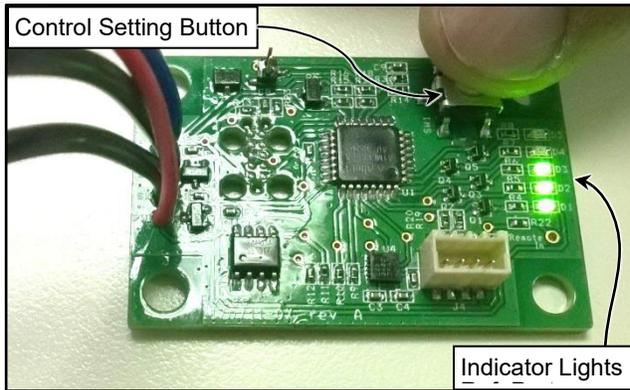

Figure 36
1. The reversing edge switch is a normally open contact. The PVC hose is on the lower air input post. To adjust the switch, first remove the resistor from the contact terminals and attach an ohmmeter across the two terminals. (See Figure 36)
2. Turn the sensitivity adjustment screw clockwise until continuity is achieved. Then turn the sensitivity screw two full turns counterclockwise for a standard setting. Some doors may require a further adjustment counterclockwise. (See Figure 36)